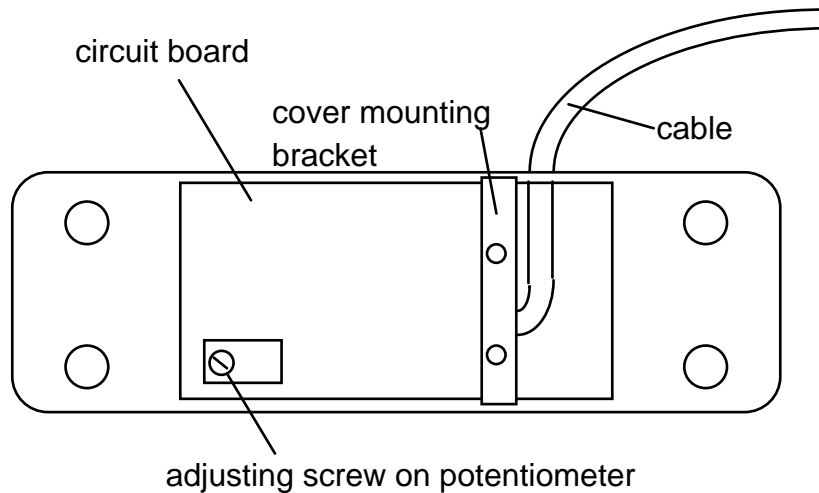

Fig 3-1. Zeroing screw for strain links
6. Find the potentiometer for zeroing the link. It is a small cube on the circuit board with a tiny screw on top as shown in Figure 3-1.